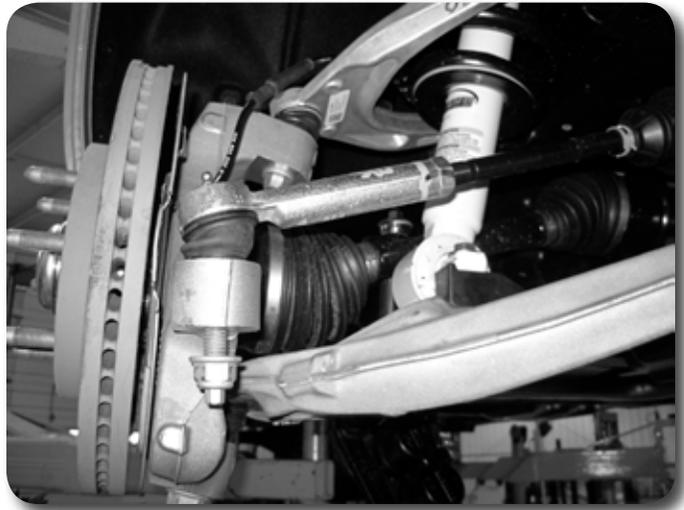

Figure 3
10. Disconnect the steering from the knuckle **Figure 3**. Remove the tie rod end nut. Steel Knuckle: Strike the knuckle near the tie rod end with a hammer to unseat the taper. Aluminum Knuckle: Avoid striking the knuckle, typically the taper unseats more easily and gently hitting the end of the tie rod end will unseat the taper. A pickle fork can also be used. Save the mounting nut.